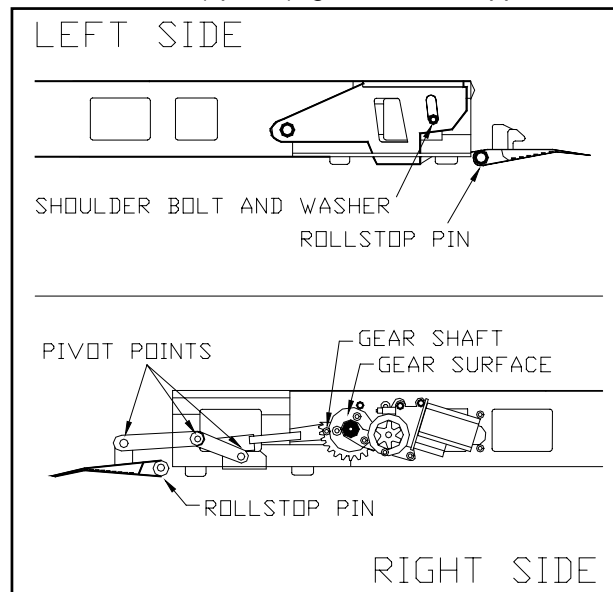

FIGURE 4-3: ROLLSTOP LUBRICATION POINTS
- 7) Refer to **Figure 4-3**. Lubricate the pivot points of the rollstop mechanism on both sides of the platform using a light grease (Curtisol Red Grease No.88167). Wipe away excess grease.